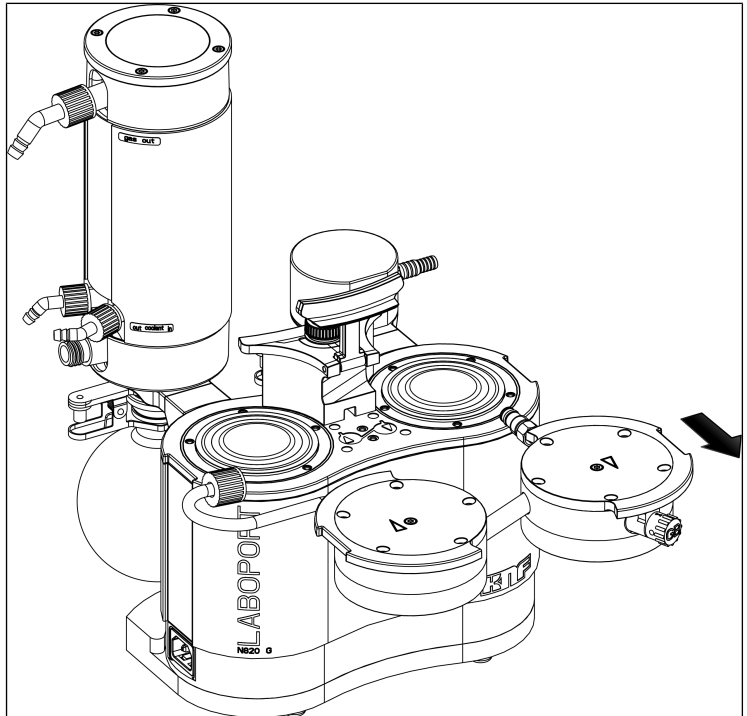

Fig.14: Remove pump heads
- Carefully remove the pump heads to the side (see Fig. 14).